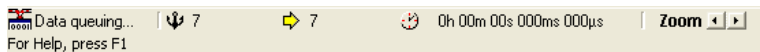

Figure 30: Monitor status bar
4. Read the time difference in the status bar (see figure 30).